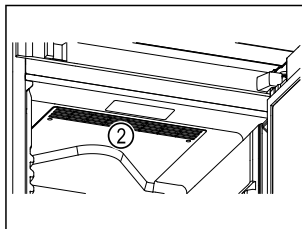

Fig. 62
- ❑ Ventilation slots Fig. 62 (2) for recirculation fan in the interior must be kept clear.